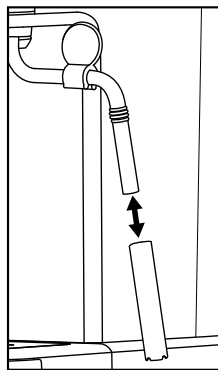

Figure 3
- 1) Place an empty container under the milk frother ⑩.
- 2) Immediately after use, turn the steam control ⑦ to the “+” position and allow the steam to escape for a few seconds.
- 3) Turn the steam control ⑦ off (as far as it will go in the direction “-”), switch the appliance off and remove the plug from the mains power socket.
- 4) Allow the milk frother ⑩ to cool.
- 5) Pull the casing of the milk frother ⑩ off (Figure 3) and clean it thoroughly in warm water.
- 7) Push the casing back onto the milk frother ⑩ (Figure 3).